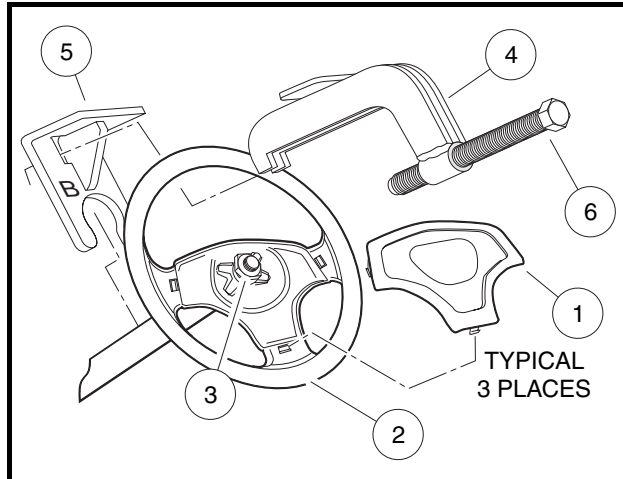

Figure 7-1 Steering Wheel Puller
- 5.1. Place the puller anvil (4) through the top opening of the steering wheel (**Figure 7-1, Page 7-2**).
- 5.2. Insert the anvil feet through the two slots in the base plate (marked “B”) (5) as shown (**Figure 7-1, Page 7-2**).